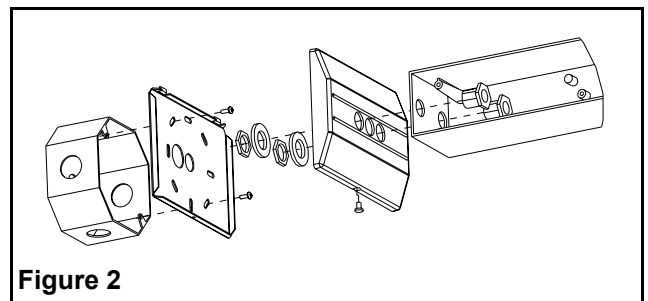

Figure 2
3. Remove the proper knockout in the canopy plate to mount to the junction box - check the orientation of the back box (see fig. 2).
6. Mount the canopy to the back box using the hardware supplied. Insert the threaded nipples through the back box knockouts, canopy and nylon washer. Thread a nut on each nipple; the nuts should be in the canopy (see fig. 2).